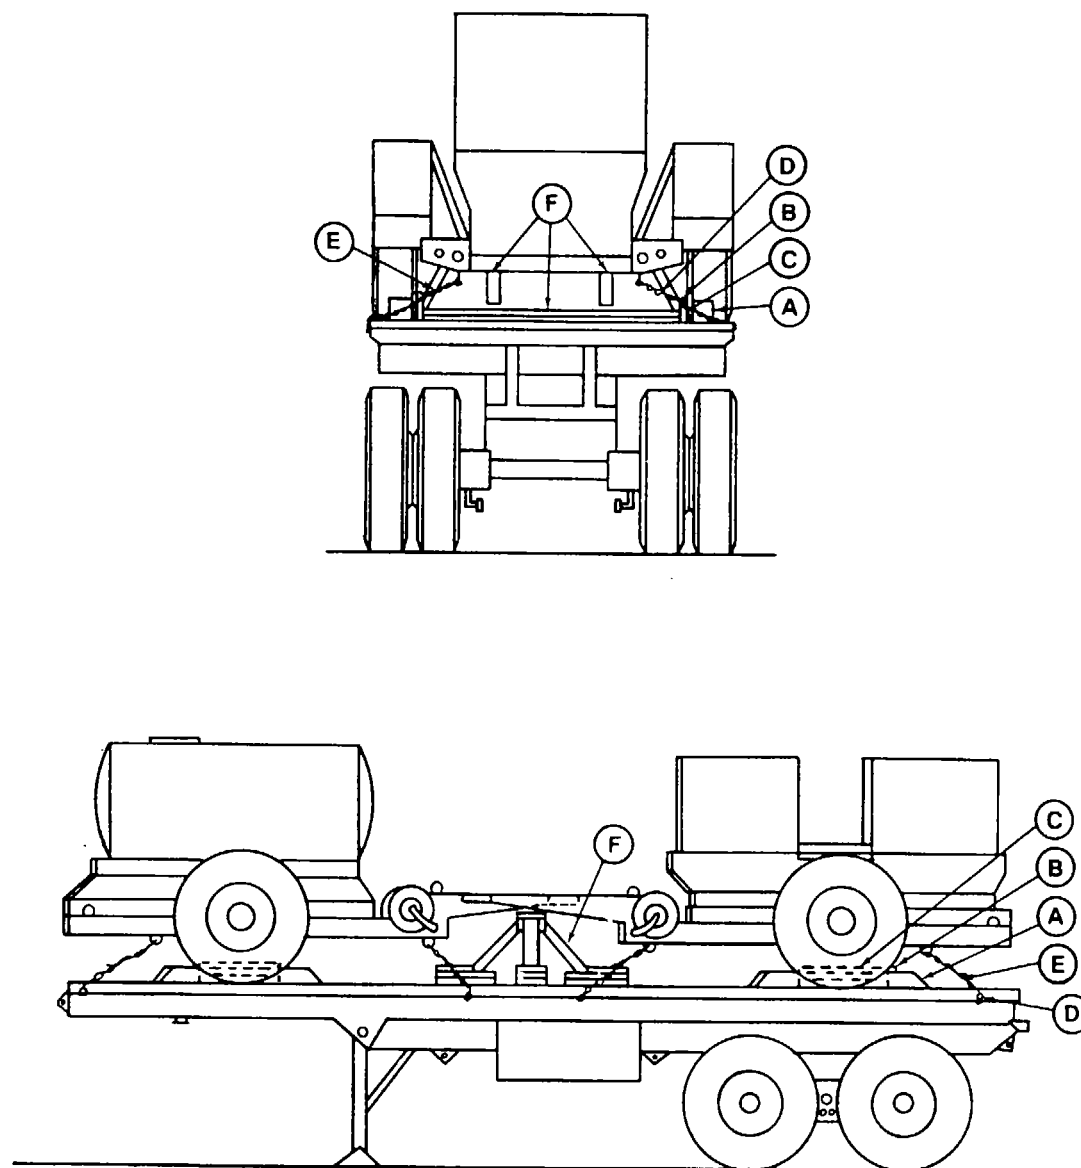

Figure 5-7. Blocking and tiedown of the PATRIOT trailers on an M127A1 semitrailer.
d. *EPUs and Refueling Units Mounted on Trailers.* EPUs and refueling units mounted on single axle trailers may be transported by commercial and military semitrailers of adequate size and weight capacity. Trailer-mounted items may be placed on the semitrailer by a crane or from a loading ramp. Fuel trailers will normally be transported empty with the tank purged. After placement of the trailers at the tiedown position, secure them in accordance with figures 5-7 and 5-8. After the lunette and frame of the trailers are placed on the forward blocking assembly, retract the M353 forward swivel castors and the M200A1 landing gear. Tables 5-7 and 5-8, bill and application of materials for blocking and tiedown, are used with figures 5-7 and 5-8.
Table 5-7. Bill of Materials for Blocking and Tiedown of the PATRIOT Trailers on Semitrailer(s) (Figs 5-7 and 5-8)
Table 5-8. Application of Materials for Blocking and Tiedown of the PATRIOT Trailers on Semitrailer(s) (Figs 5-7 and 5-8)
Table 5-8. Application of Materials for Blocking and Tiedown of the PATRIOT Trailers on Semitrailer(s) (Figs 5-7 and 5-8)-Continued